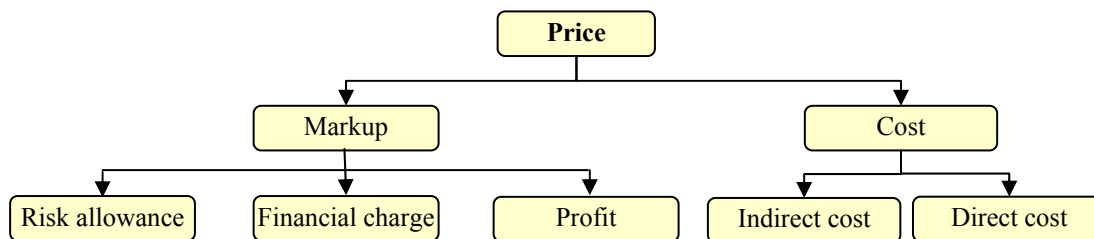

Figure 8.17: Components of a tender price
The total price of a tender comprises the cost and the markup. The cost includes direct and indirect costs. The markup, on the other hand, includes profit margin, financial charges (cost of borrowing), and a risk allowance margin (Figure 8.17). Estimating activities direct costs presented previously in chapter 3. Estimating indirect costs presented earlier in this chapter.
- Estimating a single percentage markup to be added to the total cost. It is assumed that this percentage will cover all the components of markup as shown in Figure 8.17; and